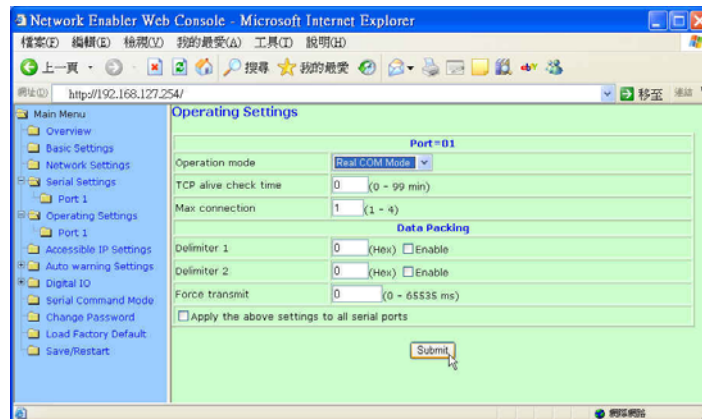

Figure A-1 After connecting 64-Logger via 192.168.127.254 website, select **Real COM Mode** in **Operating Settings**
3. Execute Microsoft Internet Explore or any web browser at PC, input website: **192.168.127.254** (the address is factory setting of 64-Logger NIC). A setting screen will be appeared, please select **Operating Setting** as Figure A-1 shown. Select "**Real Com Mode**" in **Operation Mode** and click **Submit** at the lower of screen, then click **Save/Restart** on next page. When the screen doesn't be appeared, thus confirm whether 64-Logger LAN module is installed and LAN cable connection condition. If these conditions are confirmed, please reset LAN module (refer **Set LAN Module to Factory Default** in section 2.7 of this manual) and then retry this procedure.